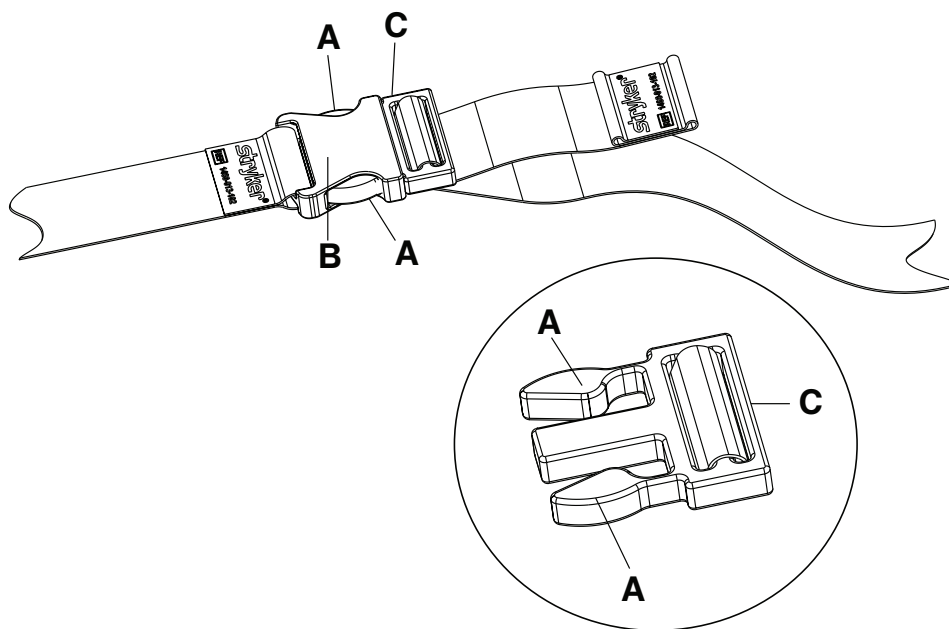

Figure 14 – Open the lap belt
1. To open the lap belt, grasp and squeeze the tabs (A) on the buckle latch. Pull on the buckle receiver (B) and the buckle latch (C) to separate them (Figure 14).